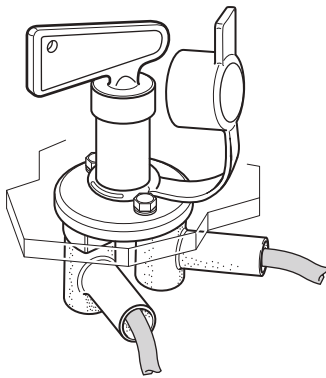

Fig. 48
- ▶ Slide protective rubber caps on to connection screws (Fig. 48).